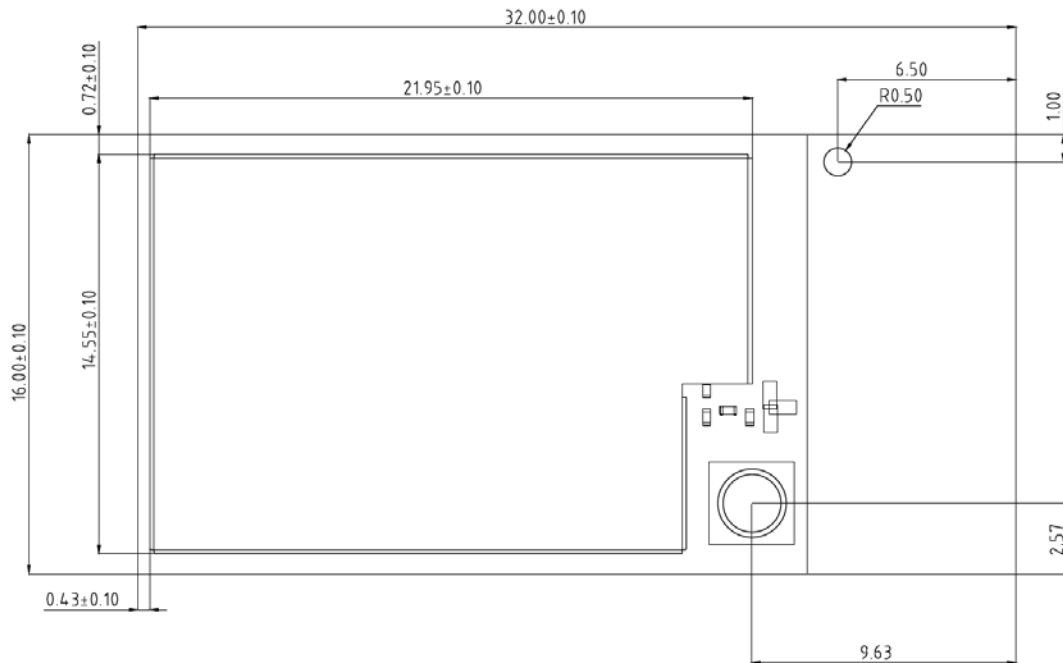

Figure 13 EMW3162 top view(Metric units)
- Sealed packaging is equipped with humidity indicator card, as shown in Figure 13.